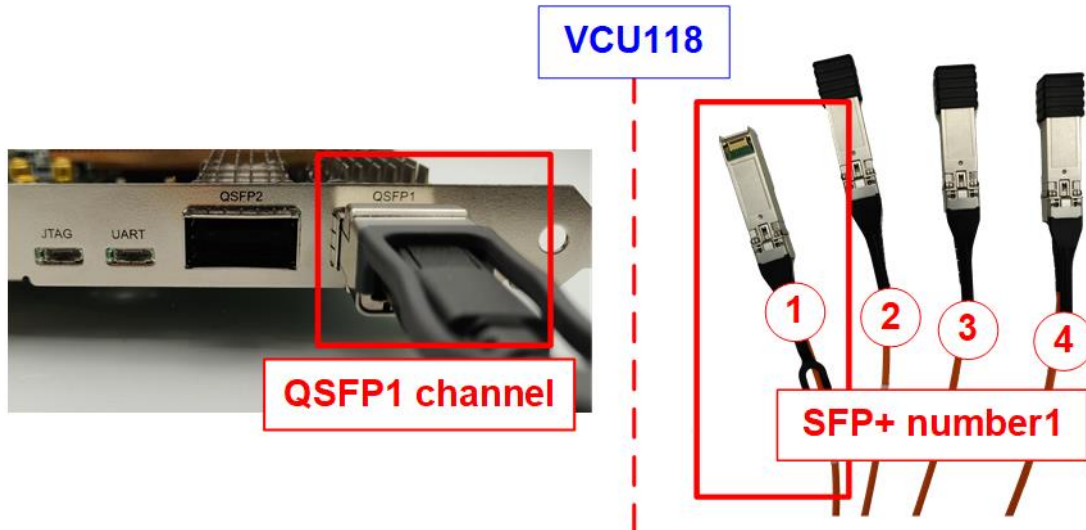

Figure 2-12 QSFP+ channel using on VCU118 board
- b) For VCU118, insert QSFP+ to 4 SFP+ cable between the FPGA board and the PC. Use SFP+ no.1 to connect to QSFP1, connector on the right side, as shown in Figure 2-12.